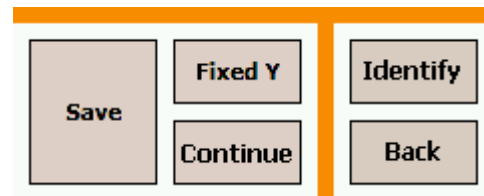

Figure 26. The Search Mode, Paused.
- To pause a search acquisition, tap **Pause**. The **Pause** button will change to **Continue**, as shown in Fig. 26. Tap **Continue** to resume the search. The display will be continuous, that is, it will not show a gap that spans the paused time.